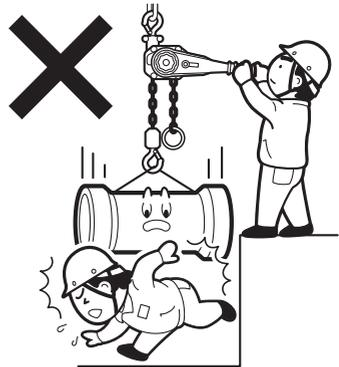

Figure 6
- (1) Individuals unfamiliar with the contents of the instruction manual and caution nameplate must not operate this product.
- (2) Do not use this product to support, lift, or transport people.
- (3) Do not allow anyone to enter the area underneath or within the movement range of suspended loads. Additionally, do not move the load above anyone. (Figure 6)
- (4) Use this product within a temperature range of  $-40^{\circ}\text{C}$  to  $+60^{\circ}\text{C}$  (with humidity of less than 100%RH).
- (5) Do not use this product in water.
- (6) Never use this equipment in locations constantly subjected to wind, rain, or waves, or in locations susceptible to salt damage, acid, alkali, etc., as this could cause damage to the equipment and load chains.